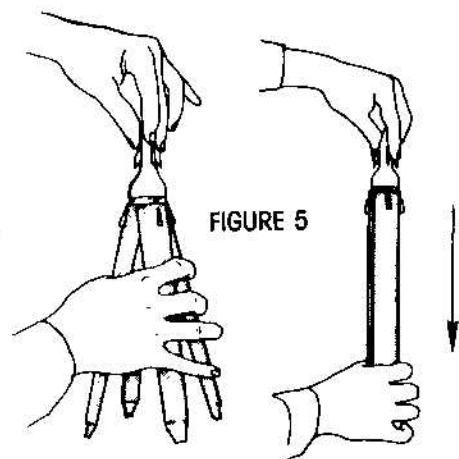
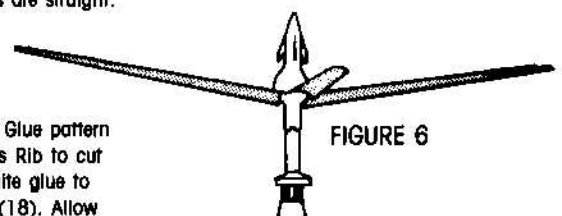

FIGURE 5
FIGURE 6
Place Upper Body(2) on Lower Body Assembly so that a post is on each side of a Hinge. If a gap exists between Body parts, rotate slightly to seat. Note: Before cementing Body parts, temporarily tape them together to check opening of the Vanes. Do this by holding the Lower Body while pulling the Base down and rotating it slightly to align the Base ribs with the Lower Body slots. This will lock the Base and keep Vanes extended. Next, fold the Vanes into a tube by holding the Upper Body with one hand while pressing on the Hinge fins with the other; then release the Vanes by sliding the hand down the tube and off the end (fig. 5). The Vanes should snap open and stay at an angle slightly above horizontal (fig. 6).